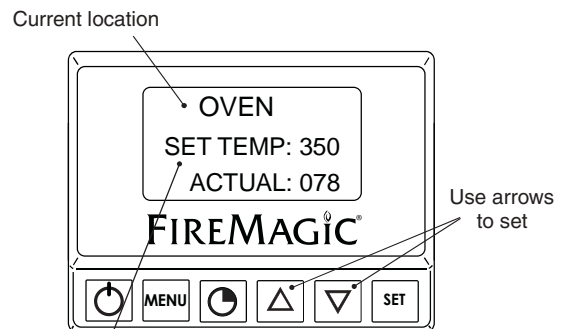

Fig. 11-4 Location temp. screen (oven shown)
2. The selected location's temperature screen will be displayed. Use the arrows to set the desired temp. The actual temp. will also be shown. (See Fig. 11-4)